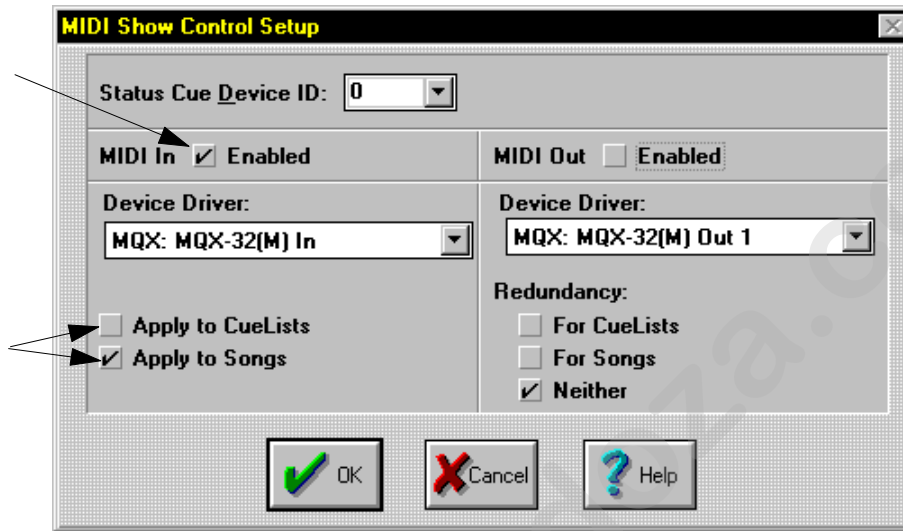

Figure B.3. Backup Computer MSC Setup
11. On the backup computer, click the **MIDI In Enabled** box. Then, click either **Apply to CueLists** to enable redundancy for CueLists or click **Apply to Songs** to enable redundancy for Songs. Set the **Status Cue Device ID** from its drop-down menu The ID must match the master system. Refer to Figure B.3. Click on the **OK** button to complete the operation and exit the dialogue box.